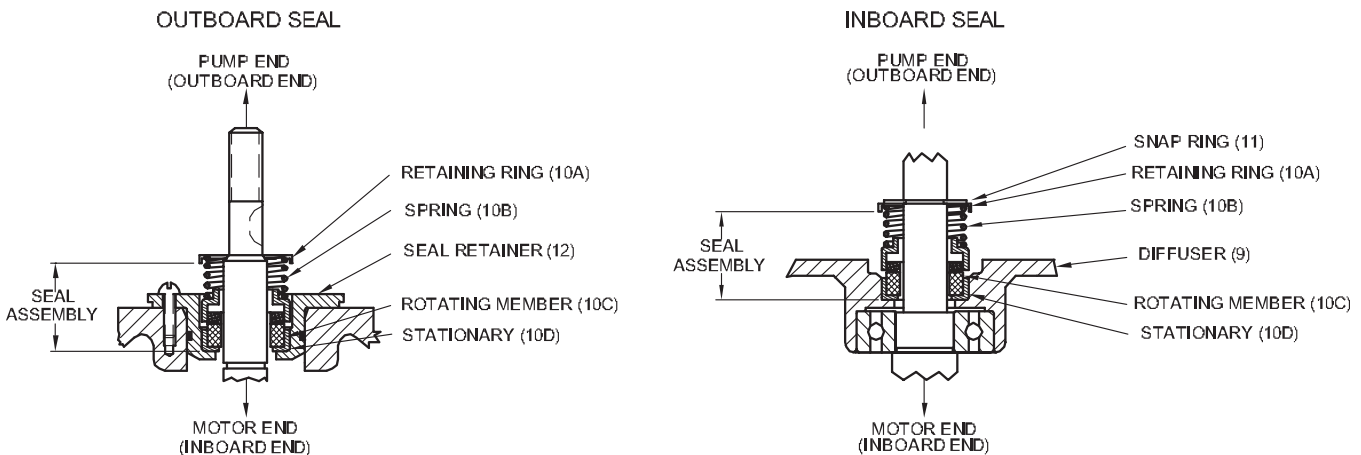

FIGURE 8
To replace outer shaft seal, drain oil per Section F-2.1 and remove impeller per Section F-3. Remove the shim washers (17a) & (17b), impeller key (15), seal retaining ring (10a) seal spring (10b), and seal rotating member (10c) from shaft, See Figure 8.